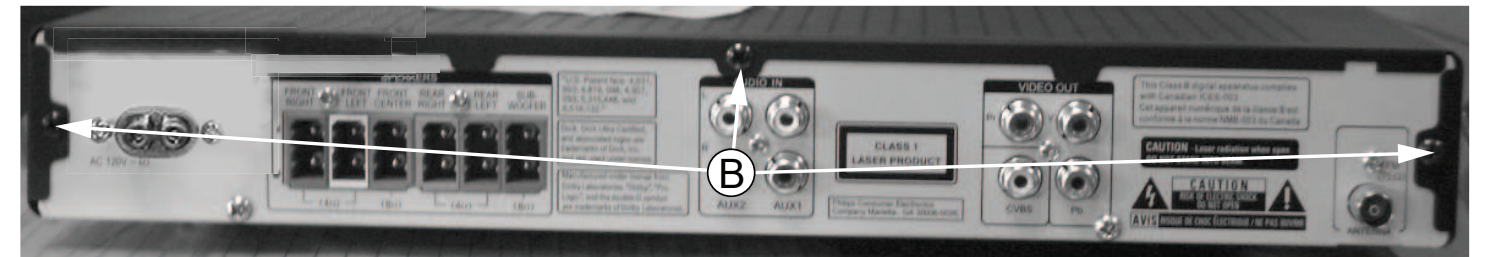

Figure 5
- 3 screws "B" at the back panel as shown in figure 5.